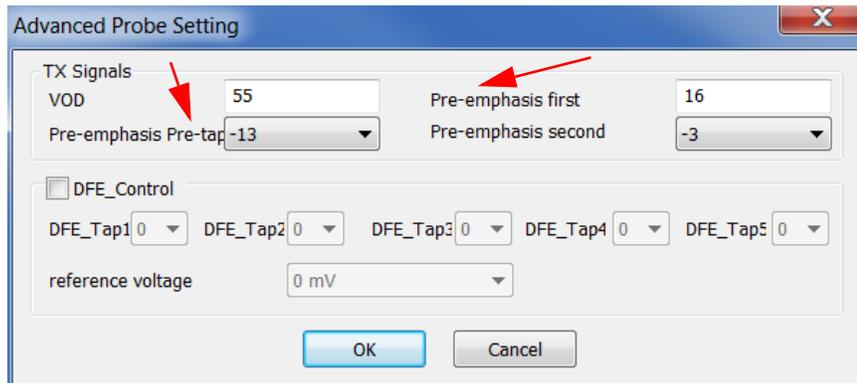
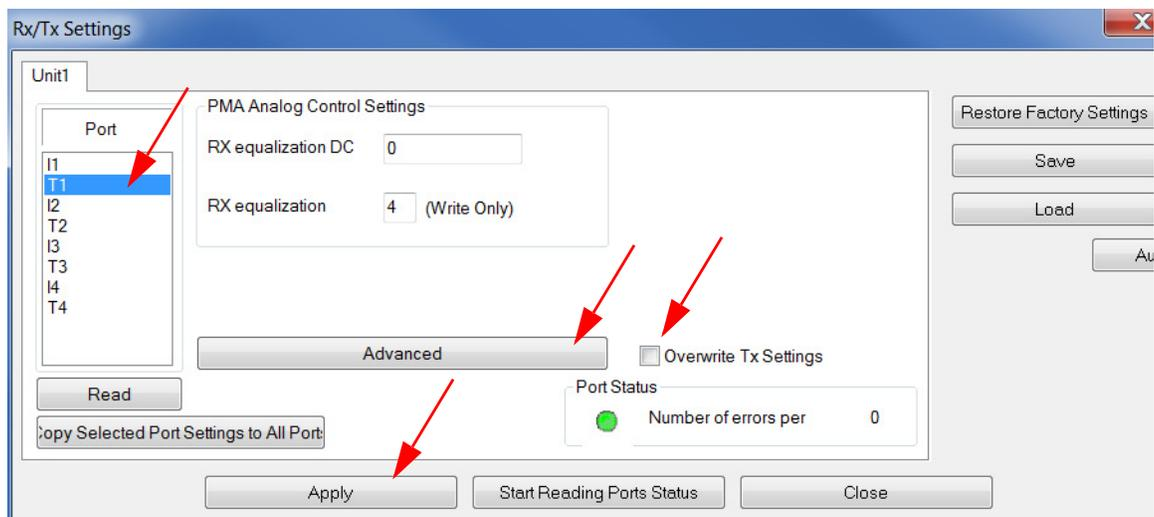

Figure 3.140: Advanced Probe Setting Dialog
Figure 3.141: Rx/Tx Settings Dialog
3. The typical set of values for the Initiator are shown in Figure 3.140 on page 208. If you see these values then no changes are required.
5. Select T1 on the Rx/Tx Setting dialog (see Figure 3.141 on page 208), and then click the **Advanced** button (no need to re-read the values).
6. Manipulate the "Pre-emphasis first" and "Pre-emphasis pre-tap" fields by making small changes to the values achieved by Training (see Figure 3.140). This is an iterative process to eliminate errors. After each value change, press **OK** to make the change in the software copy of the value, and then press **Apply** in the Rx/Tx Settings (see Figure 3.141 on page 208) dialog to write the new value to the Serdes.
**Overwrite Tx Settings:** Check this box (see Figure 3.141) to retain the optimal values reached through manual calibration every time the link goes through Training due to port reset, power cycle or disconnection.